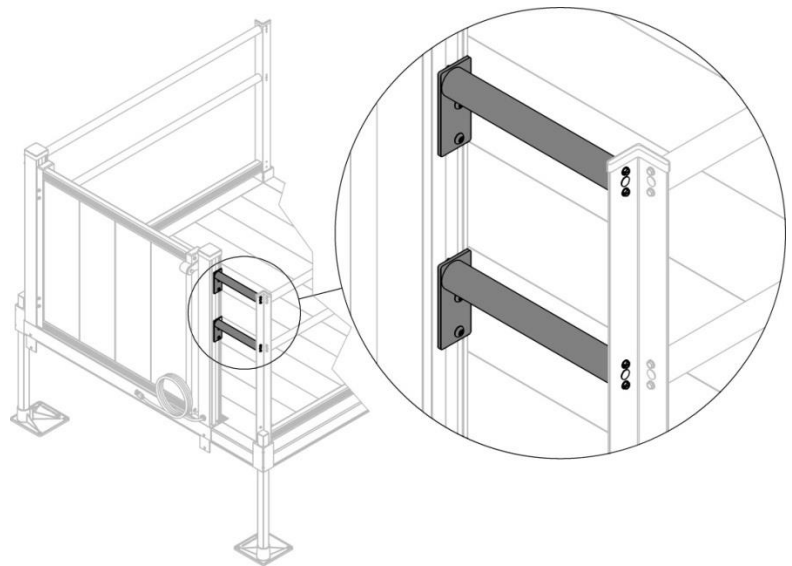

FIG. 7.1
1. The Pathway Connector Kit connects a gate post to a platform handrail post. It includes two 1-1/2" diameter handrail tubes, two connector plates, two clamp plates, and the needed hardware (FIG. 7.1). If connecting both gate posts to platform handrail posts, use two connector assemblies.